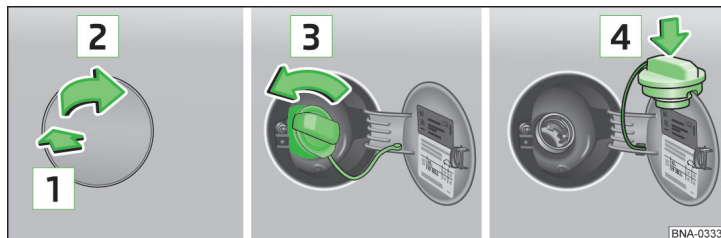

Fig. 74 Opening the fuel filler flap/unscrewing the tank cap/placing the tank cap on the fuel filler flap
The correct fuel for your vehicle is specified on the inside of the fuel filler flap» fig. 74 on page 74.
- › Press the fuel filler flap in direction of arrow **1** and fold in the direction of arrow **2** » fig. 74.
The correct fuel for your vehicle is specified on the inside of the fuel filler flap » fig. 74 on page 74.